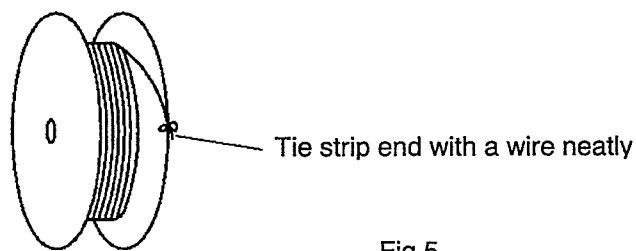

Fig.5
- (3) Avoid storing the contact reel in a moist or dusty place. Stock the reel in a comparatively dry and clean place (5 ~35°C, 45~85%RH) away from direct sunlight.
- (4) When removing the contact reel from the machine, fasten the end of contact strip onto the edge of the reel with use of proper string or wire. (See Fig.5)